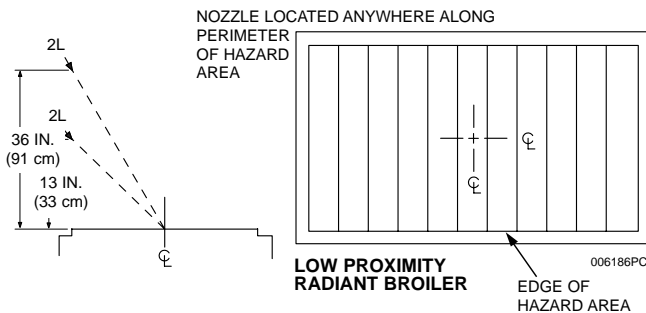

Figure 3-11b
The 2L nozzle, Part No. 551027, is used for low proximity radiant char-broiler protection. This nozzle is a two (2) flow nozzle. The nozzle must be located **anywhere on the perimeter** of the hazard surface, 13 in. to 36 in. (33 to 91 cm) above the cooking surface of the appliance and aimed at the center of the broiler surface. See **Figure 3-11b**.